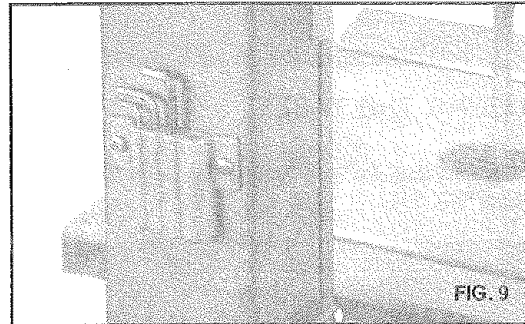

FIG. 9
i. Assemble the tool holder to the column of the bandsaw with two pan head screws. Locate two pan head screws from the bag of loose parts. Mount the tool holder to the column and install a pan head screw in each hole, then tighten with Phillips screwdriver. (See FIG.9)